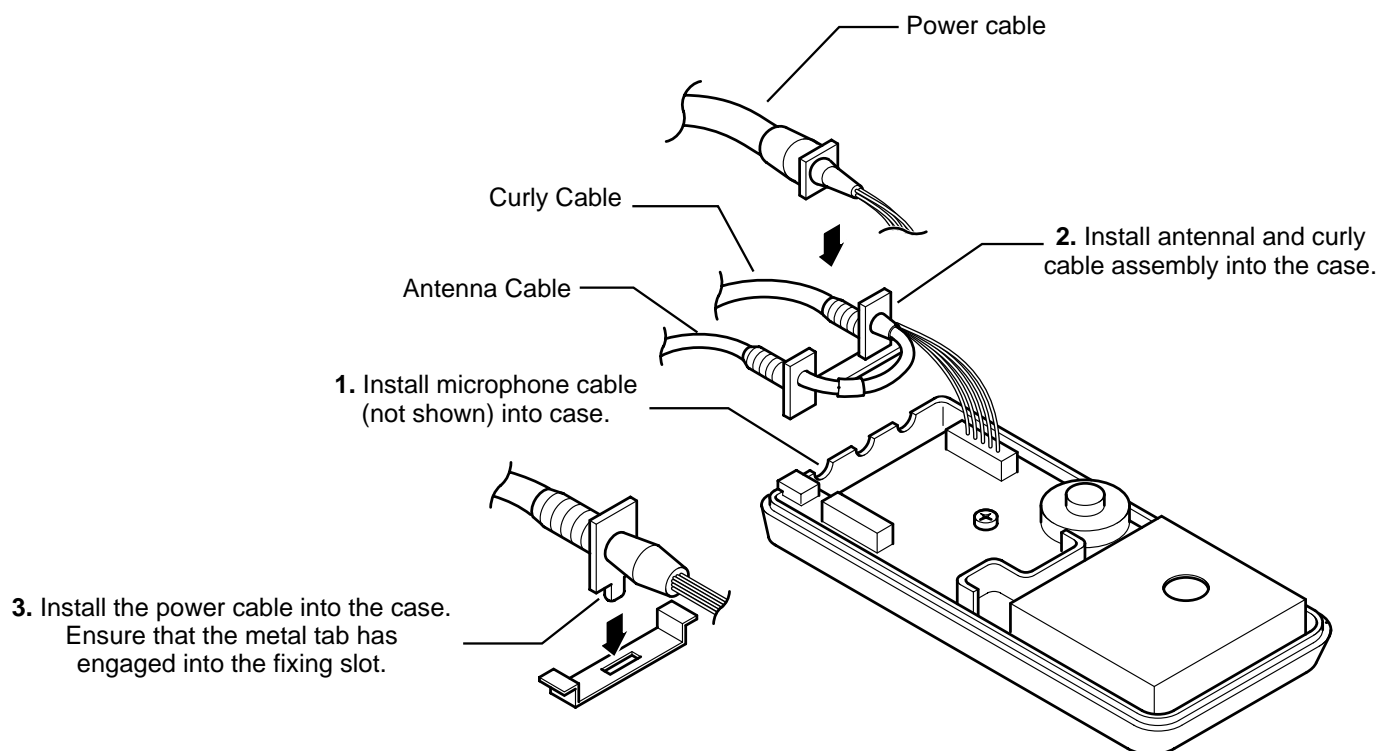

Figure 27: Handsfree cable positioning
2. (Figure 27) Position the cables into the case moulding.